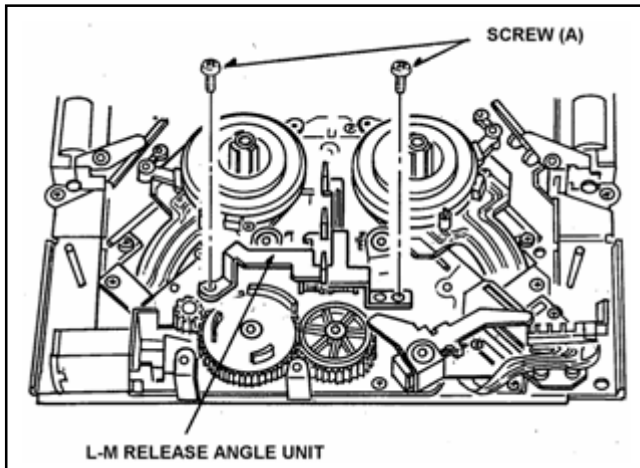

Figure 5-25-1
1. Unscrew the 2 screws (A) and remove the L-M Release Angle Unit as shown in Figure 5-25-1.